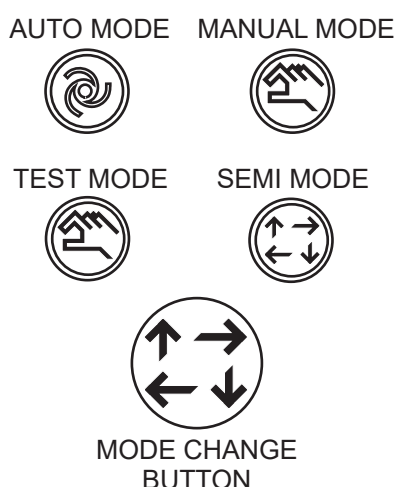

Figure 109. Operational Mode Buttons
2. Verify that the four **Operational Mode buttons** (Figure 109) are displayed just above the **Mode Change button**.